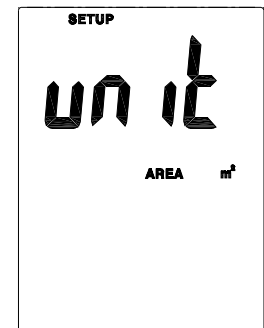
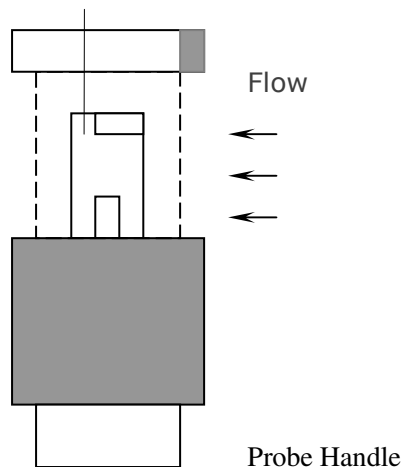
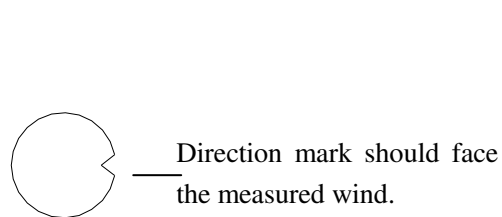

Fig.2
Fig.4
Fig.5
1. When the thermometer is in Setup mode, press  or  to scroll to the area unit setup option (refer Fig.2).
5. Slide the sensor cover to the down position, let the air velocity sensor to contact the air, refer Fig.2. Extent the telescope probe to the convenient length, refer Fig.4.
measurement, then this mark should against the measured wind, refer Fig. 4, Fig5. When sensor head face against the measurement air, then the upper display will show the air velocity value. The lower display will show the temperature value.